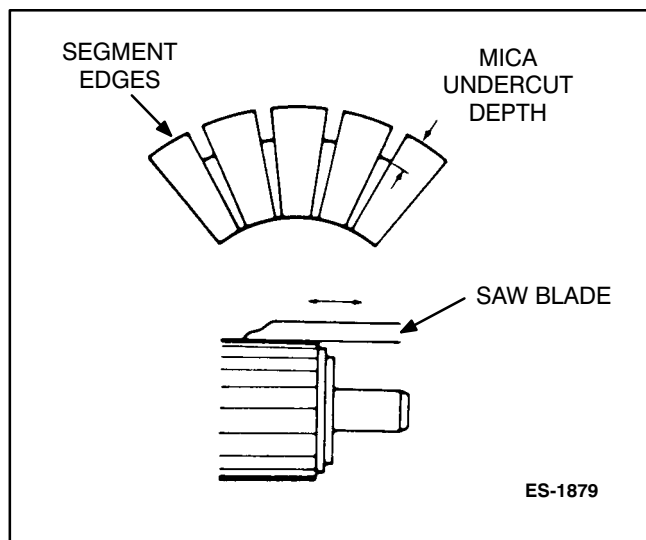

FIGURE 6-29. MICA UNDERCUT SERVICE
5. Measure the mica undercut depth (Figure 6-29).